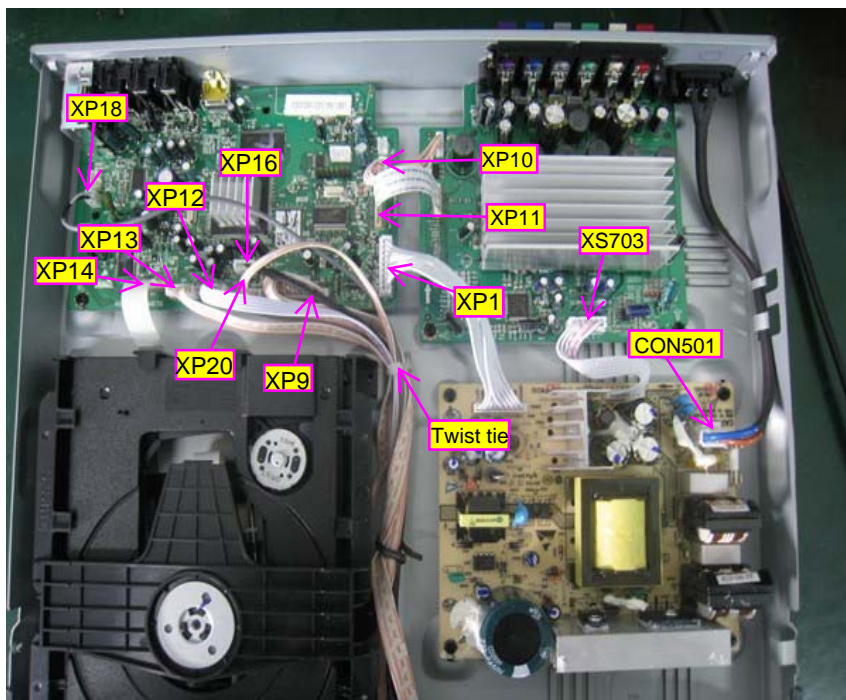
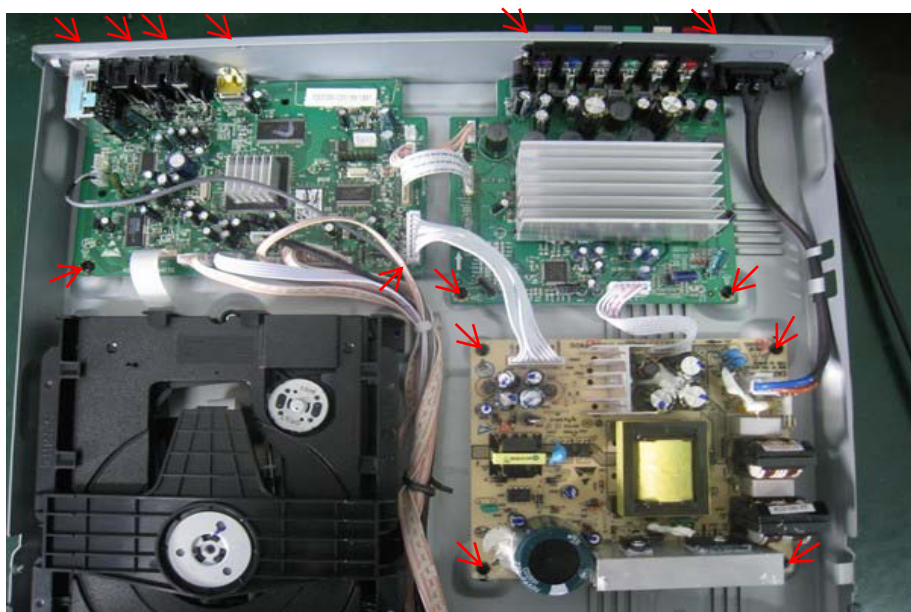

Figure 4
Figure 6
Step4: Dismantling Front Panel, disconnect the connectors (XP9, XP16, XP18, XP20), need cut 2 twist tie down, and release 2 snaps of front panel & 2 snaps of bottom cabinet, then gently pull the Panel out from the set. (Figure 4 - Figure 6)
Step6: Dismantling Main Board, first disconnect 3 connectors (XP1, XP10, XP11), and then remove 6 screws. (Figure 6)
Step7: Dismantling Power Board, disconnect the connectors XS703 and CON501 then remove 4 screws. (Figure 6)
Step8: Dismantling Amplifier Board, remove 4 screws from the PCB. (Figure 6)